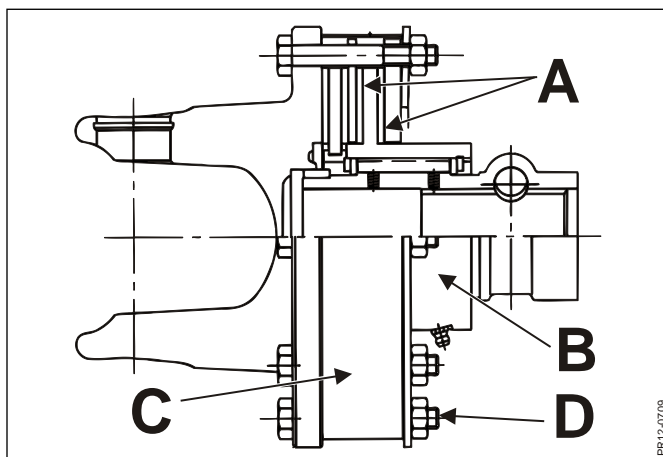

Fig. 7-4
- Fig. 7-4**
Fig. 7-4 IMPORTANT: The outer metal band **C** indicates whether the tightening of the springs is correct. Tighten the bolts **D** just so much that the metal band **C** can be turned (max. 0.5 mm play). The torque setting is not correct if the metal band is too tight or deformed due to excessive tightening of the bolts.